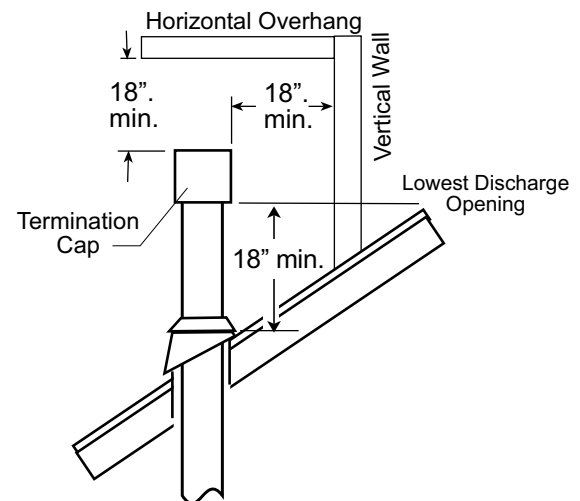

Figure 6.4.
- **Vent Terminus Clearance:** In no case shall any discharge opening on the cap be less than 18 in. (457 mm) horizontally from the roof surface. See fig. 6.4.